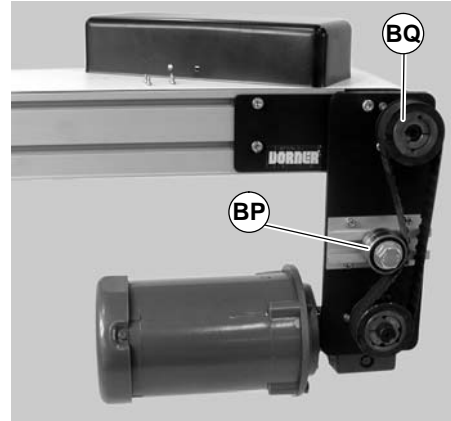
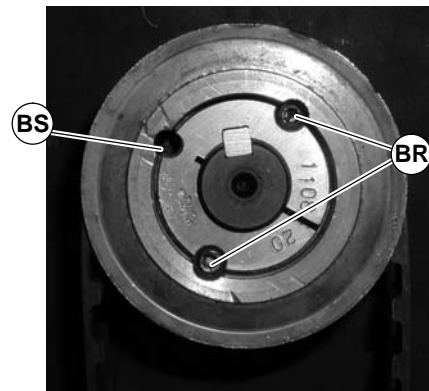

Figure 51
Figure 52
- 3) Loosen tensioner (BP of Figure 51).
- 4) Remove taper-lock screws (BR of Figure 52) on the driven pulley (BQ of Figure 51). Insert one (1) of taper lock screws (BR of Figure 52) in remaining hole (BS). Tighten screw (BR) until pulley is loose. Remove pulley, taper hub assembly and timing belt.